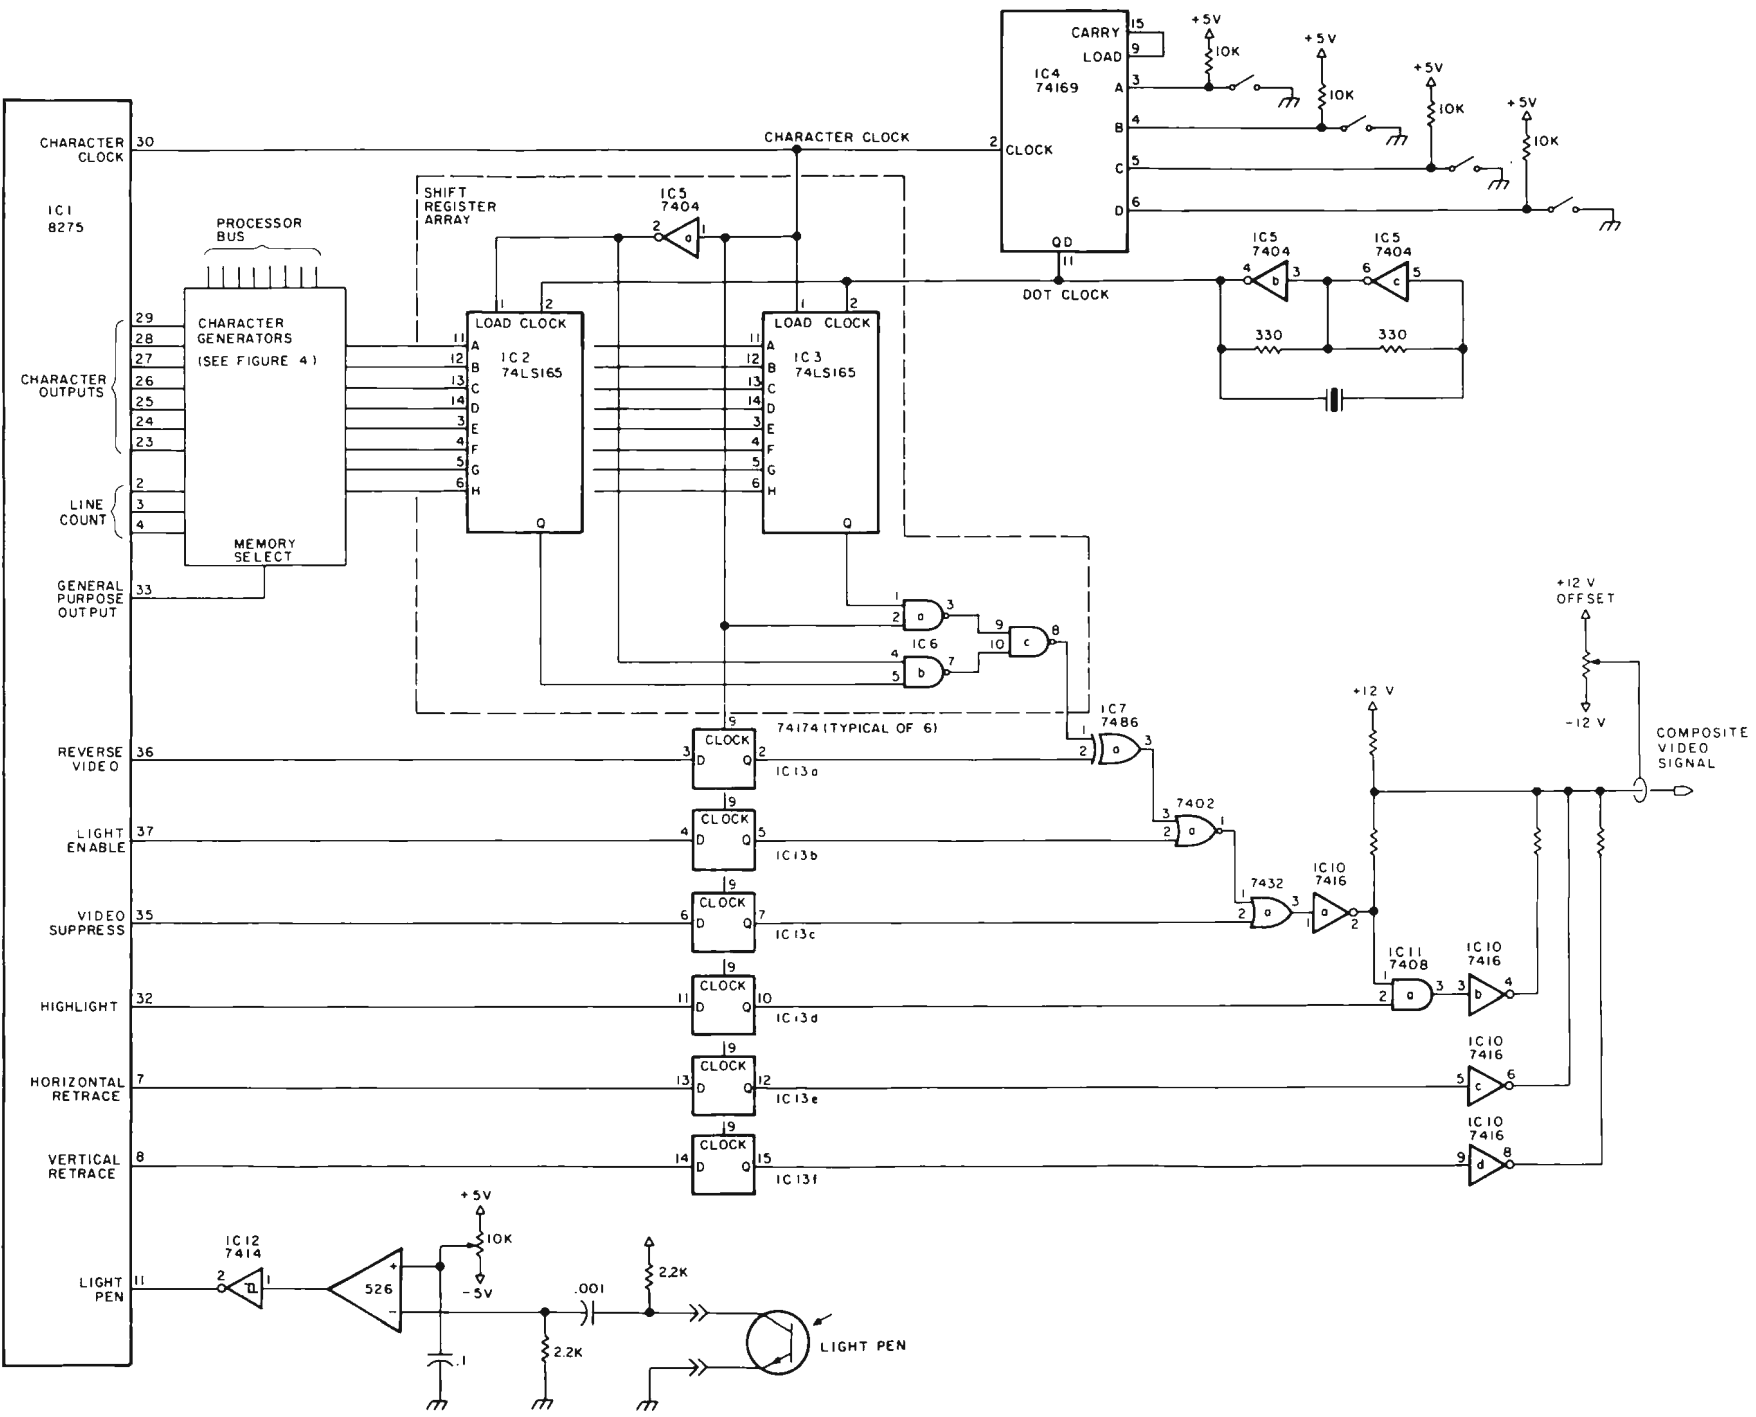

Figure 3: A possible configuration of the 8275 to produce a composite video signal. The number of dots which make up a character is determined by the dot clock.
Table 1: Power pin assignments for the circuits in figures 3 thru 6.
- *Light Pen* input. A positive edge on this input latches the present row and column positions. One possible light pen circuit is shown in figure 3. The light pen is a phototransistor. It is connected to a differentiator (the resistor/capacitor network) and a comparator. The comparator detects a positive spike caused by the electron beam intensifying the phosphor on the screen. A Schmitt gate gives the video controller a clean, sharp edge. The controller now has the row and
Since this article is primarily concerned with the 8275's operation, discussion of the circuit will be limited mostly to the composite video output circuitry. The purpose of this section is to further acquaint the reader with the 8275. Figure 3 shows one configuration for producing a composite video signal. A dot clock is divided down to provide the character clock. If the dot clock is divided by n , there are exactly n dots per character horizontally. The character clock is connected to the 8275, but it must also connect to two other points. It controls the loading of the shift register, and it clocks several bits through flip flops. The shift register turns the parallel dot data from the character generator to serial form for the video display. The six bits (*Reverse Video*, *Light Enable*, *Video Suppress*, *Highlight*, *Horizontal Retrace* and *Vertical Retrace*) are delayed by one clock by passing them through the flip flops to synchronize them with the slow speed of the character generator. They are then gated with the character data through some logic gates to produce the composite video output signal.
Figure 3 gives the reader an idea of the complexity of the output circuit. Each box represents one integrated circuit (if a simple character generator is assumed), except for the six flip flops, which are all contained